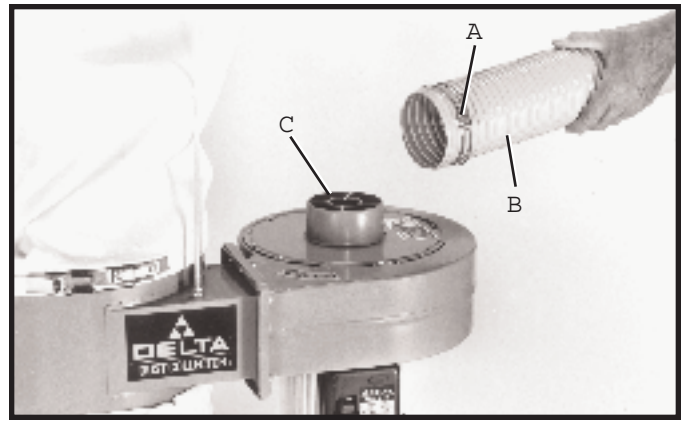
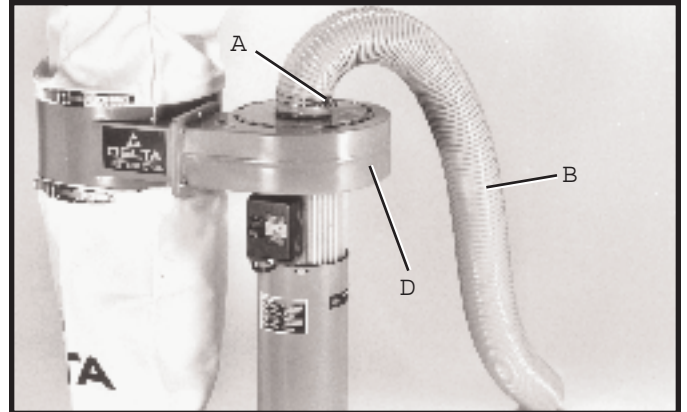

Fig. 14
Fig. 15
To assemble the dust collection hose to the motor and blower assembly, loosely attach hose clamp (A) Fig. 14, around one end of flexible hose (B) and assemble the hose to dust intake port (C). Tighten hose clamp (A) Fig. 15, to hold flexible hose (B) on the blower and motor assembly (D). Assemble the remaining clamp to the other end of the flexible hose and to the woodworking machine. **IMPORTANT:** Do not operate the dust collector without the flexible hose assembled to the dust intake port.